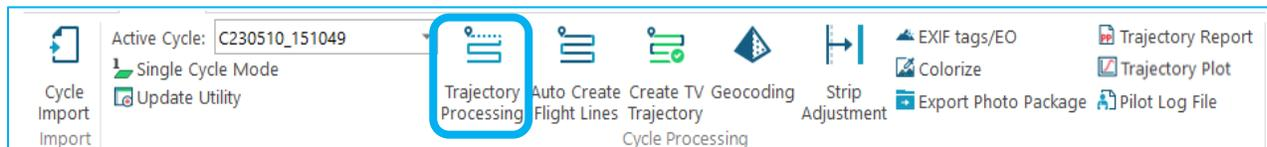

Figure 144 – Post Processing Trajectory Wizard
1. On the Sensor tab (Figure 144), make active the Cycle/Flight combination to be processed.
2. Open the **Post Processing Trajectory Wizard** dialog by selecting the sensor **Trajectory Processing**  button on the Sensor tab (Figure 144).